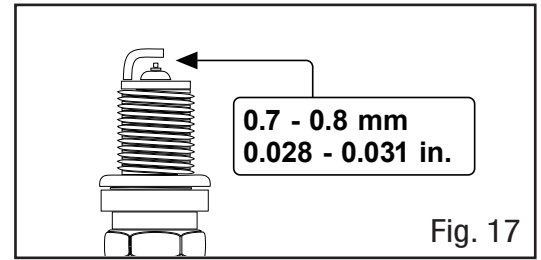

Fig. 17
2. Remove the spark plug cap (Fig. 17).